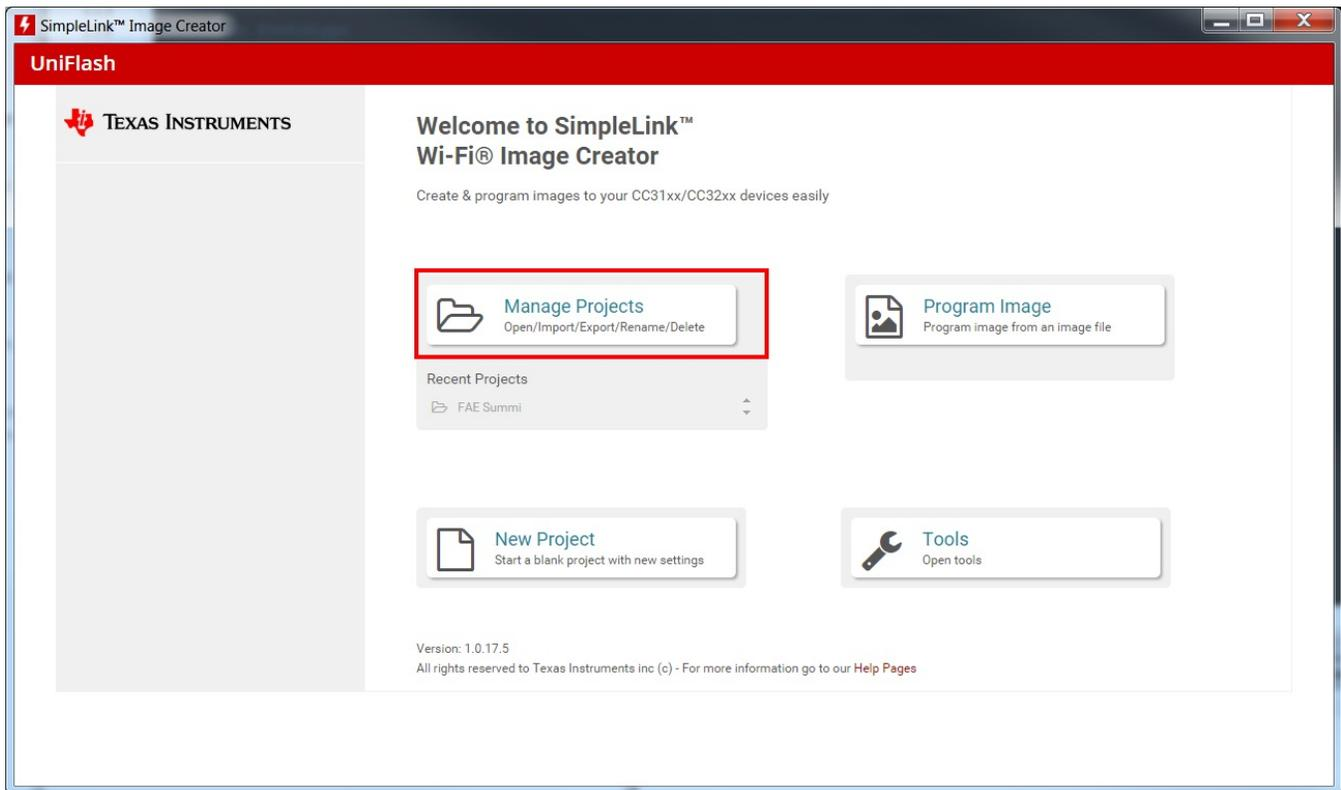

图 9. Manage Project
3. After starting Image Creator, click on the *Manage Projects* button as shown in 图 9.